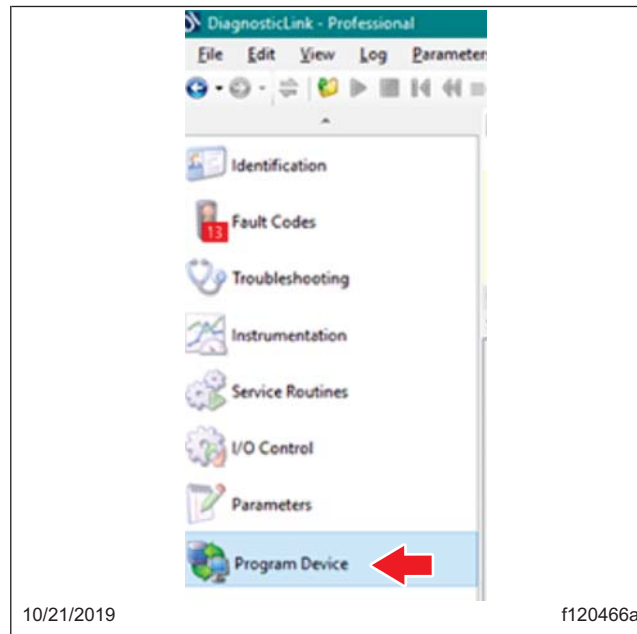
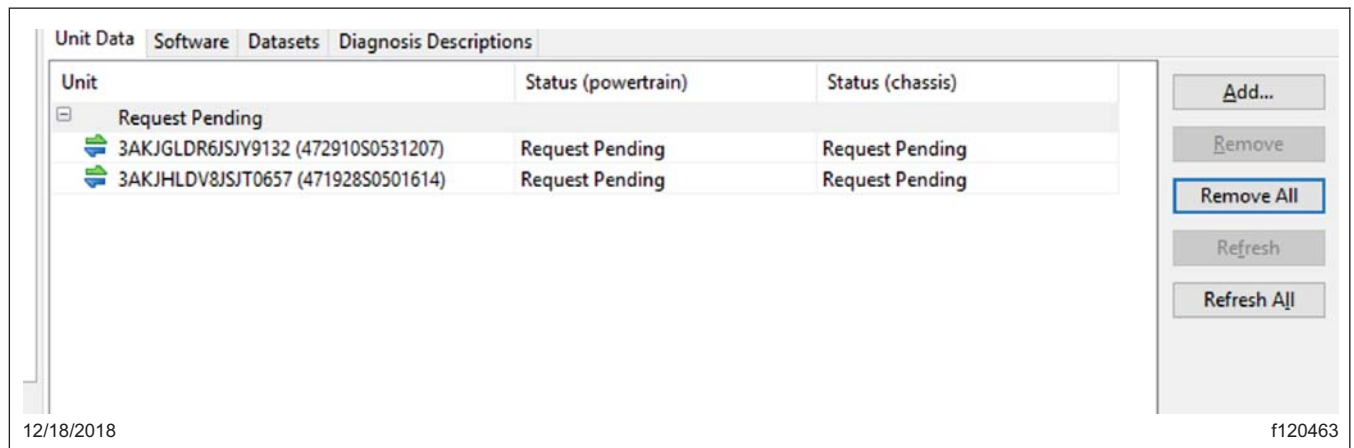

Fig. 2, Program Device Screen
Fig. 3, Removing Pending Requests
4. Select "Program Device." See Fig. 2 . If there are any items in the section "Request Pending" downloads, they should be removed. To remove them, select the "Request Pending" list item, then press the "Remove All" button. See Fig. 3.